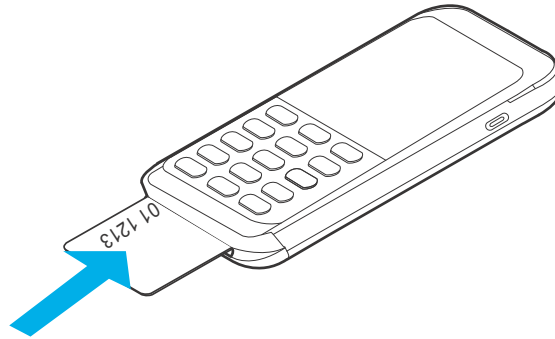

Figure 9 Inserting a Smart Card
- 1 Position the smart card with the contacts facing upward (see Figure 9).